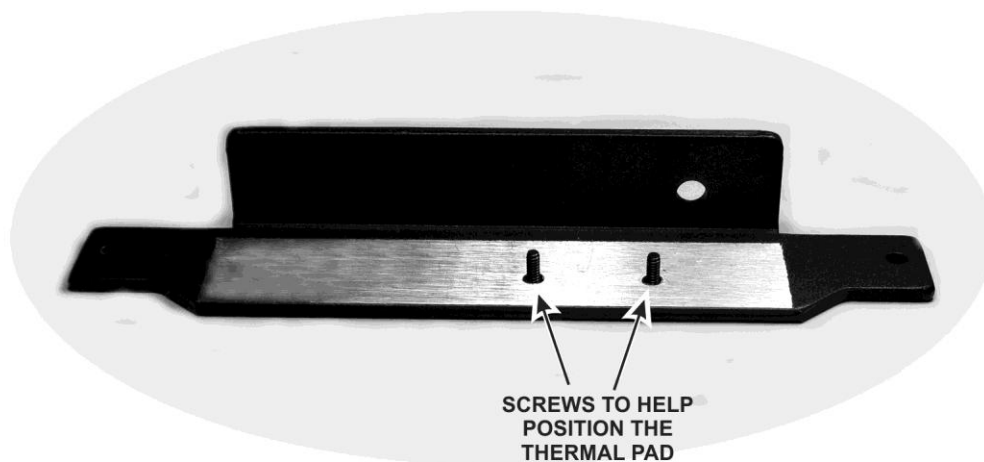

Figure 4. Heat Sink Ready for Thermal Pad.
□ Lay the heat sink down on your work table as shown in Figure 4 with the two 4-40 3/8" (9.5mm) black flat head screws in the holes as shown. The screws will assist in aligning the thermal pad over the bare metal area.